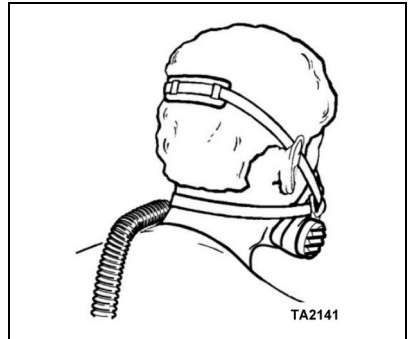

Fig. 2
6. Pull the head pad onto the crown of the head (*Fig. 2*) and adjust the harness, feeding the harness through the anchors to equalise the pull of the harness.